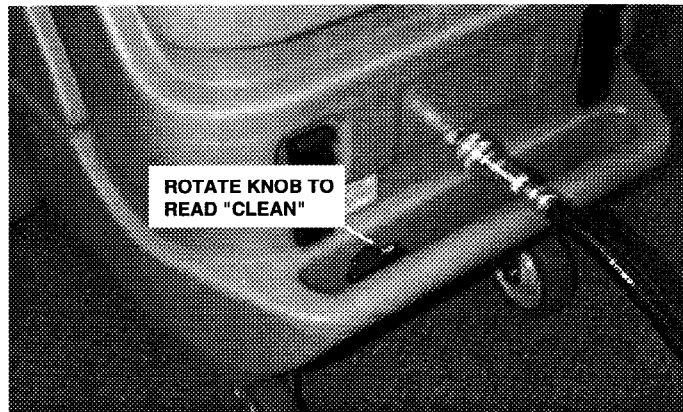

Fig. 7
7. Turn off "PUMP" and "HEATER" switches when solution water reaches desired temperature. Rotate pre-heat/clean knob to read "CLEAN". "CLEAN" mode will increase existing water temperature to a potential maximum of (170°F, 77°C) at spray tips while operating. (Figure 7)